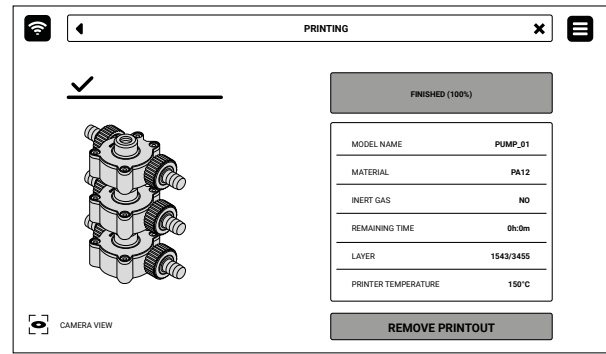

Fig. 8.1 The screen informs the user that the printing is finished.
1. Once the screen displays a message saying **FINISHED** (fig. 8.1) the printing process is over. Choose the **REMOVE PRINTOUT** button to retrieve it from the print chamber.